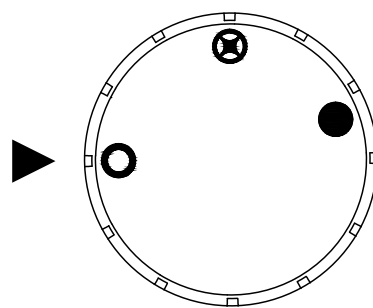
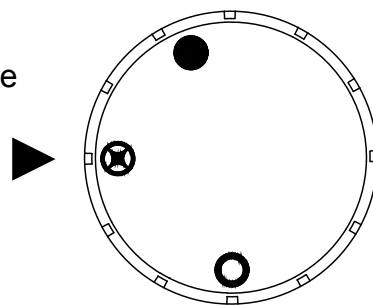

Fig. 22a
Fig. 23a
3. Push in gas control knob slightly and turn clockwise  to OFF "○" position. (See Fig. 22a)
4. Wait (5) minutes to clear out any gas. Then smell for gas, including near the floor. If you smell gas, STOP! Follow "B" in the safety information above. If you don't smell gas, go to the next step.
5. Push in gas control knob slightly and turn counterclockwise  to the PILOT "⊗" position. (See Fig. 23a) Depress control knob.